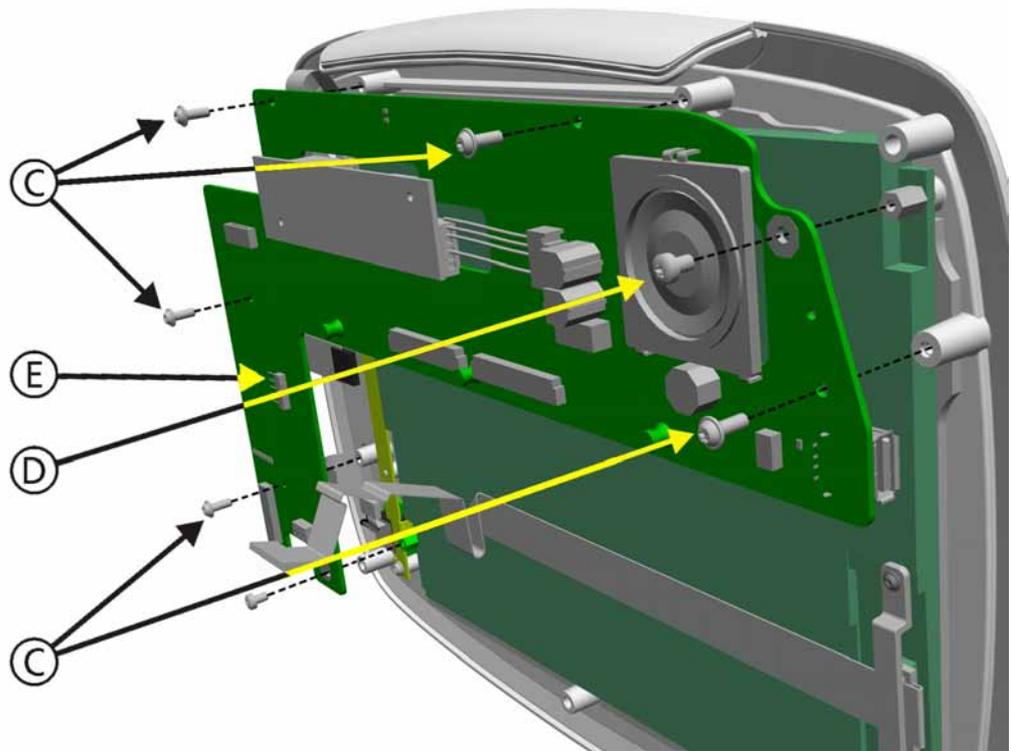

Figure 11-7. Interaction Panel Board Removal, Step 2
- Figure 11-7, *Interaction Panel Board Removal, Step 2*, on page 11-12